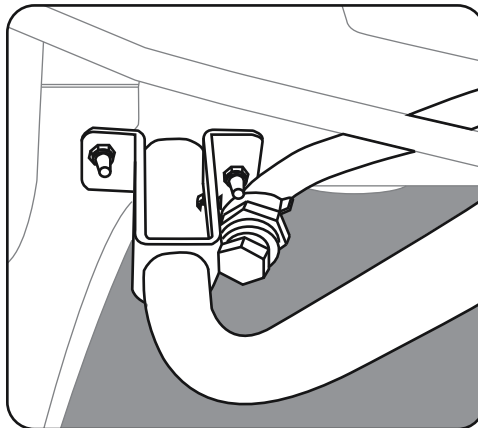

Figure 3-4
- Install the oil drain tube clip onto the front right support bracket (#6A) in the mounting hole. See Figure 3-4.